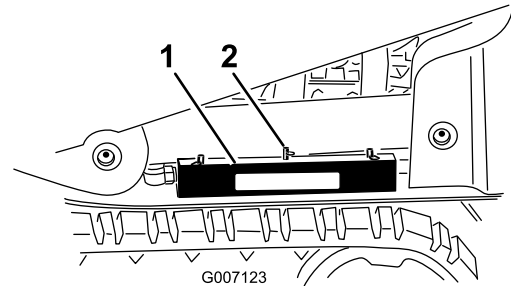

Figure 31
4. Remove the hairpin cotter and clevis pin securing the cylinder lock to the frame (Figure 31).
5. Place the cylinder lock in its storage location on the frame and secure it with the clevis pin and hairpin cotter (Figure 31).